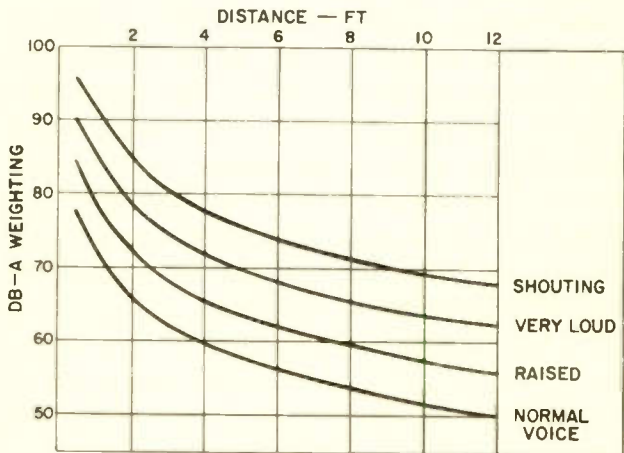

Figure 2. Speech Interference Levels.
**N**OISE that interferes with speech is not only annoying, but can be downright menacing if it interferes with spoken or shouted warnings. Because the sounds that have about the same frequencies as speech are the worst offenders, the A weighting network gives the best indication of the speech interference or "masking" ability of a sound. Using the A weighting network and the curves of Figure 2, you can easily tell how much noise your conversation will tolerate. For instance, suppose you wanted to speak in a normal voice and be fully understood at 12 feet. The curve labeled **NORMAL VOICE** crosses the 12-foot vertical line at